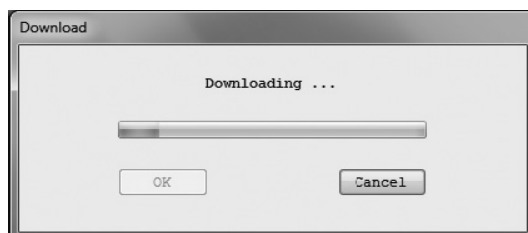

Fig.181
- ⑦ Once the data is downloaded, the various setting values will be modified, and this will change the output values from the flowmeter as well. If the flowmeter's output is used to control valves or other such parts, then for the sake of safety, change the control loop to manual control so that the control loop is not influenced by the flowmeter's output.
- ⑧ After the "OK" button is clicked and the download starts, a message box (Fig. 181) will be displayed. It is possible to verify the state of download progress by watching the progress bar in the middle of the window.